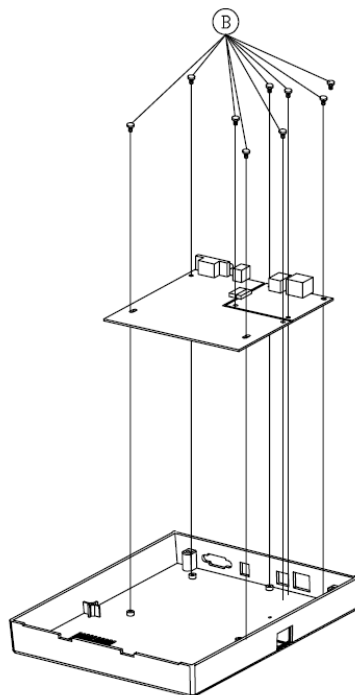

Figure 10.1.3
7. Remove the 4 screws (B) which fix the main board (43) from the bottom (39). Then remove the defected main board as shown in Fig. 10.1.3.